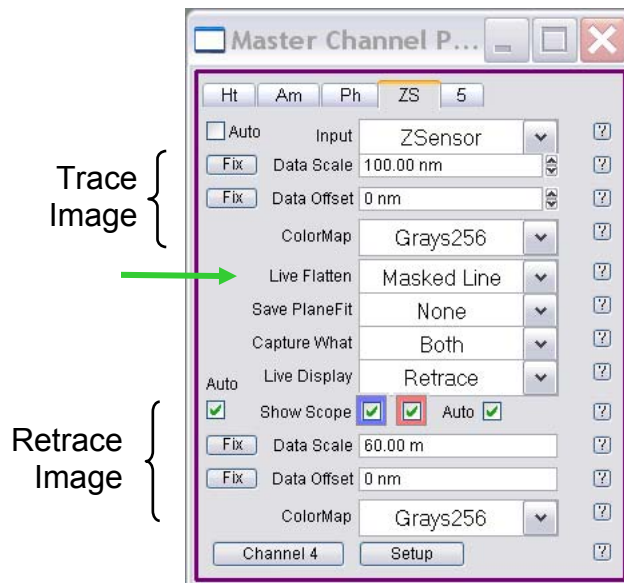

Figure 7.1.3: Activating Data Scale and Offset setvar windows for Trace and Retrace images. Green arrow: Choosing live flattening
- The Data and Offset Scales of the Trace *and* Retrace image channels can be separately controlled by clicking the 'Setup' button in the Master Channel Panel (Figure 7.1.3). The upper set of scale setvar applies to the Trace image, while the lower will apply to the Retrace. From the author's understanding, if *just* the top is open, it will apply to both Trace and Retrace images of the respective channel.